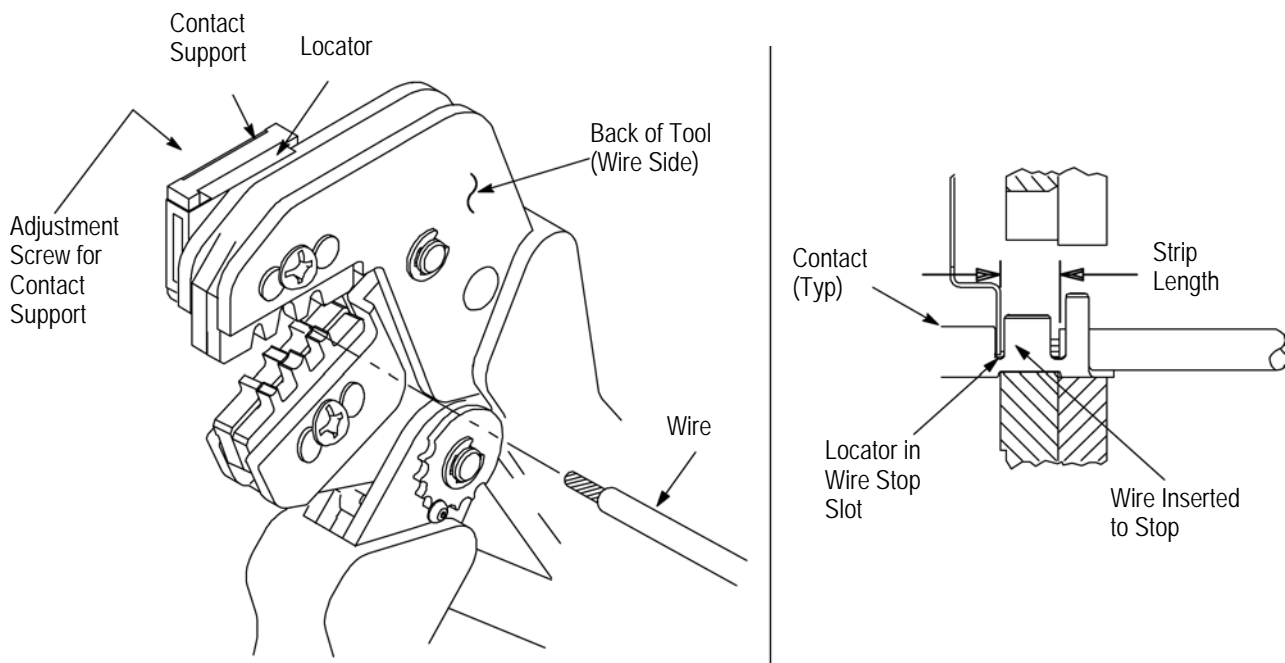

Figure 3
**4. CONTACT SUPPORT ADJUSTMENT** (Figure 3)
*Refer to the table in Figure 1 and select wire of the specified size and insulation diameter. Strip the wire to the length indicated in Figure 1, taking care not to nick or cut wire strands. Select an applicable contact and identify the appropriate crimp section according to the wire size markings on the tool. Refer to Figure 3 and proceed as follows:*
3. Position the contact so that the mating end of the contact is on the locator side of the tool, and so that the open "U" of the wire and insulation barrels must face the top of the tool. Place the contact up into the nest so that the movable locator drops into the slot in the contact. Refer to Figure 3. Butt the front end of the wire barrel against the movable locator.
5. Insert stripped wire into contact insulation and wire barrels until it is butted against the wire stop, as shown in Figure 3.
*The crimped contact may stick in the crimping area, but the contact can be easily removed by pushing downward on the top of the locator (see Figure 3)*